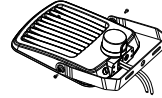

Figure 2
- Step 2: Install two small screws. (Figure 2)